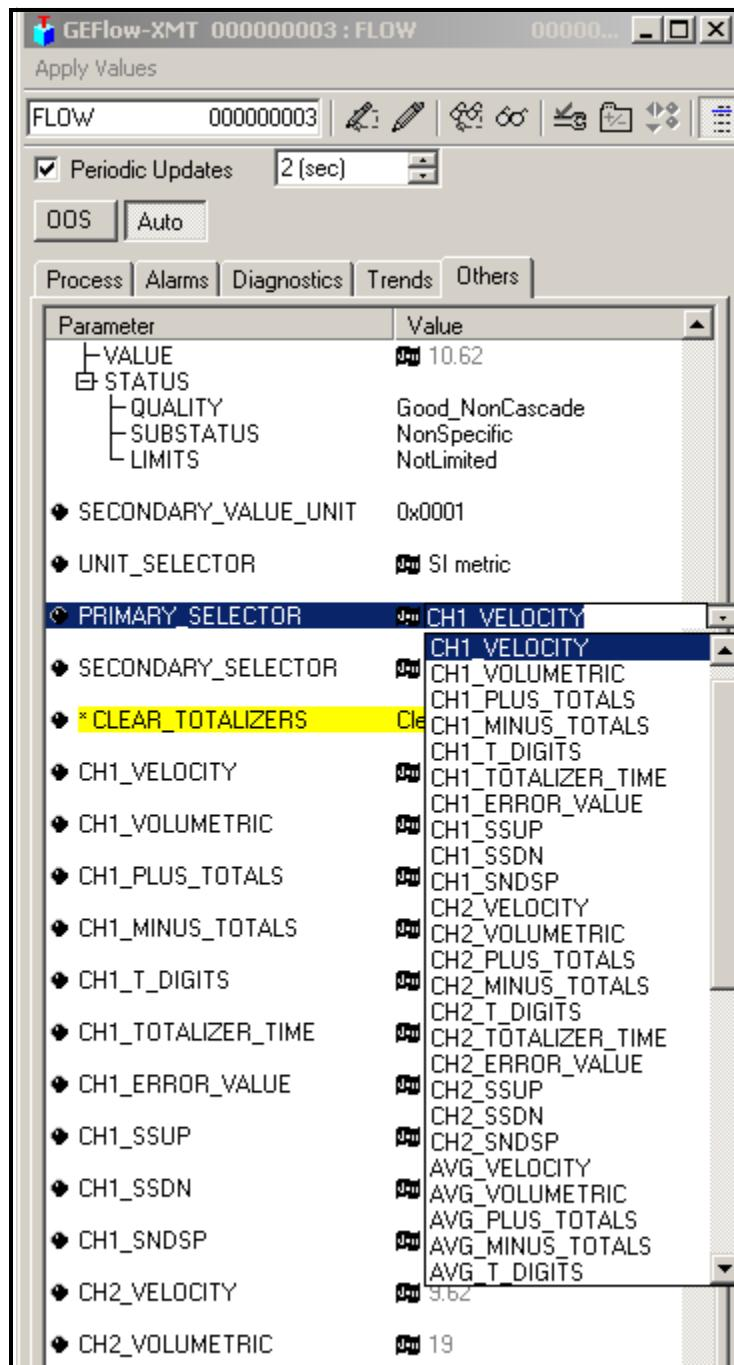

Figure 48: Primary Selector Drop Down List
2. Select the Others tab and open the drop down list for the PRIMARY_SELECTOR and SECONDARY_SELECTOR (refer to Figure 48 on page 63).
3. Choose the unit from the list (see Figure 48 on page 63).